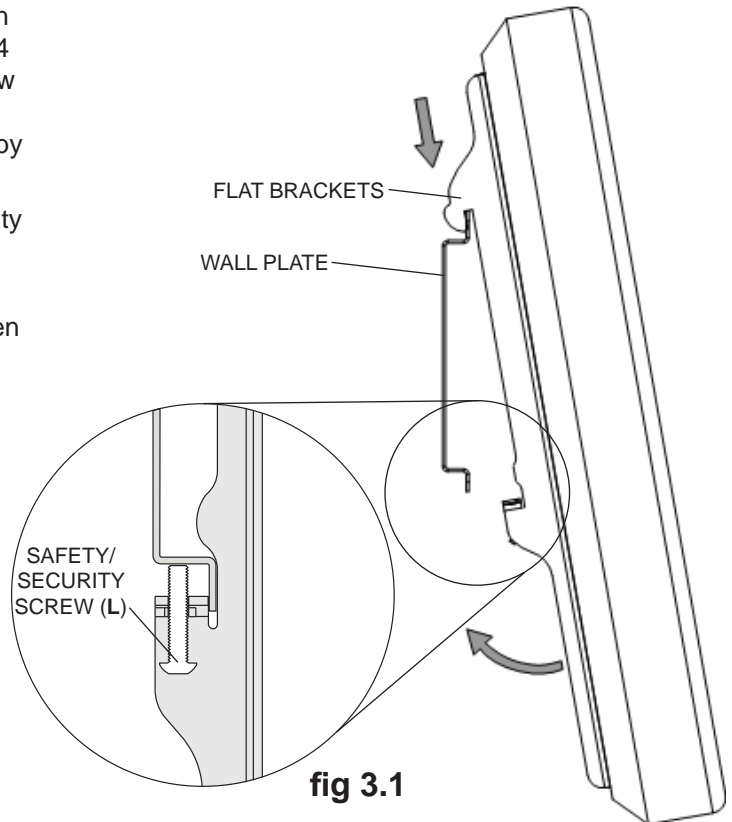

fig 3.1
3 Hook flat brackets onto wall plate (not included). Then slowly swing screen in as shown in figure 3.1. Using 4 mm security allen wrench (I) turn clockwise until screw fits firmly against wall plate to prevent screen from being removed. Screen can be adjusted horizontally by loosening M5 x 25 mm screw (B) on flat brackets.
- 3** To attach screen to arm (not included), insert the puck of adapter plate into the tilt bracket slot as shown in figure 3.1. Attach brake pad assembly as shown in Detail 3 so that the brake pad is snug against the adapter plate. Adjust roll position of adapter plate to level screen then lock puck in place by tightening M5 x 25 mm screw (**B**) on the underside of tilt bracket using 4 mm allen wrench (**I**). Tighten all (M5 x 20 mm, M5 x 25 mm) screws.